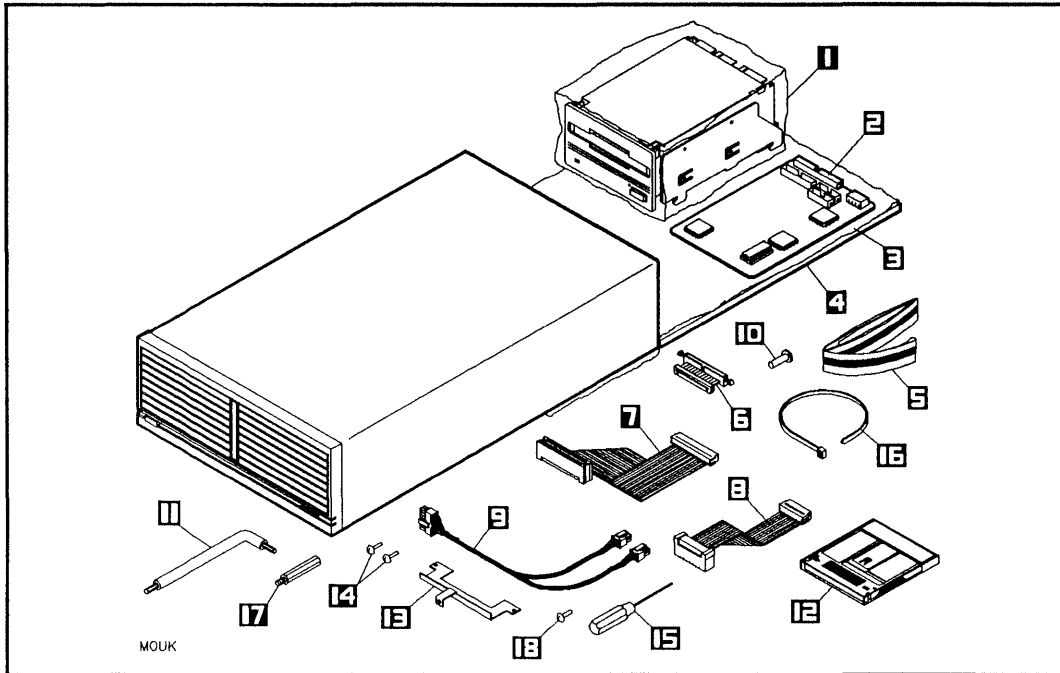

Figure 3-4. Rewritable Optical Disk Drive Upgrade Kit Contents
The first step when installing a rewritable optical disk drive into your mass storage system is to unpack and identify the contents of the 2294A upgrade kit. Figure 3-4 shows the contents of the 2294A upgrade kit.
6. Place the rear of the mass storage system chassis on the conductive sheet as shown in Figure 3-4.